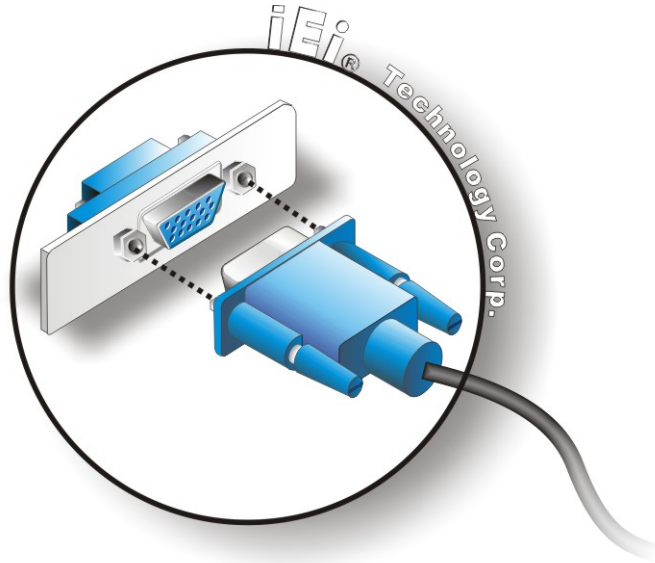

Figure 4-20: VGA Connector
Step 3: Insert the VGA connector. Once the connectors are properly aligned with the insert the male connector from the VGA screen into the female connector on the WAFER-945GSELVDS2. See **Figure 4-20**.